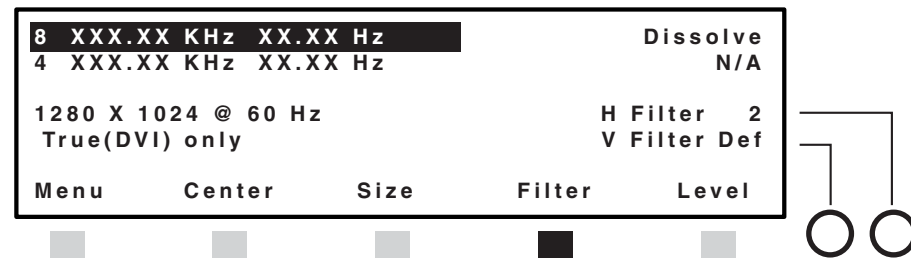

Figure 3-28 — Applying a filter to an image
1. From the default screen, press the Filter button (figure 3-28). The preview input is highlighted.